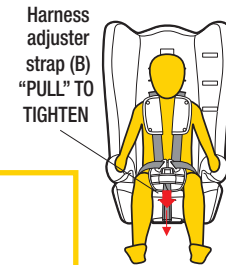

Figure 2
- Step 4:** Pull harness adjuster strap (B) to take the slack out of the shoulder straps (see figure 2), until it is a firm but comfortable fit. Ensure buckle is adjusted centrally in relation to the child. Adjust if necessary.